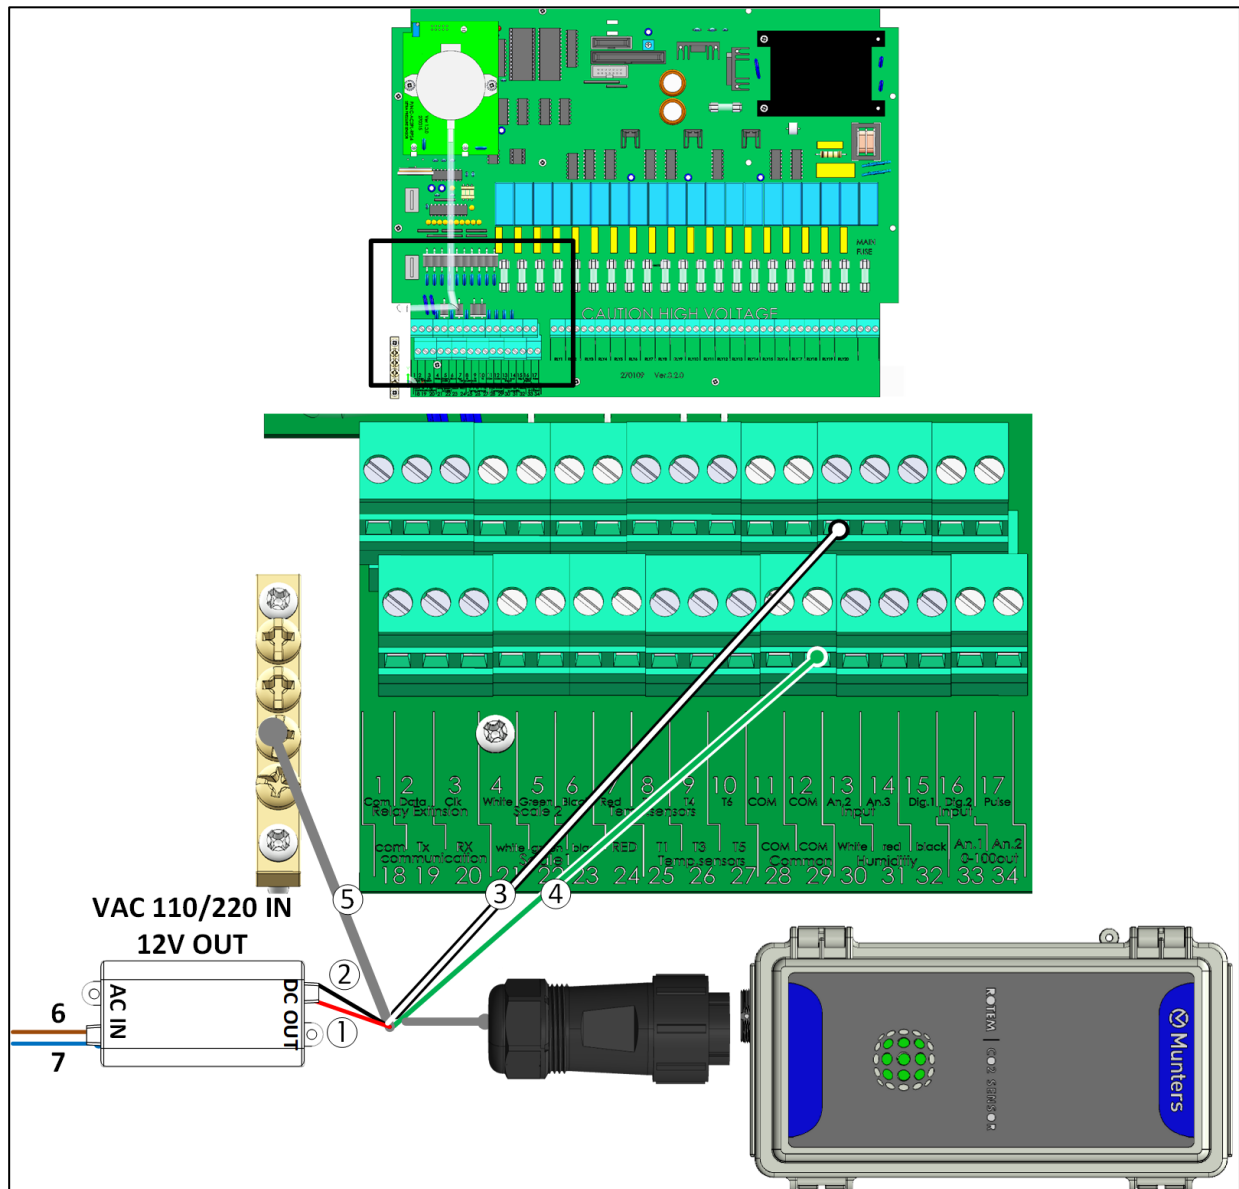

Figure 14: AC-2000 Plus Power Supply Wiring
1. Attach the other end of the sensor cable to the power supply and AC-2000 board (port 13 or 14). See Figure 14.